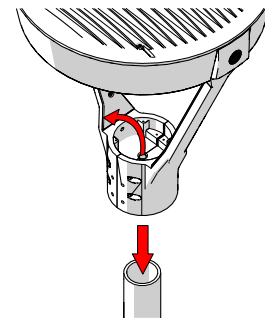

Figure 2
2. Slide the fixture over the pole while pulling the supply wires through the center of the wiring compartment [Figure 2].